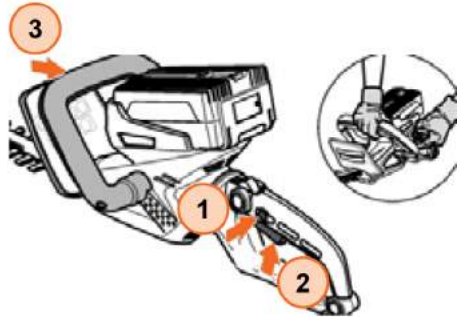

Figure 4
Hold the hedge trimmer firmly with both hands (see Figure 4). Press and hold down the switch interlock ①. Press the switch ② and the safety switch ③. The hedge trimmer runs.